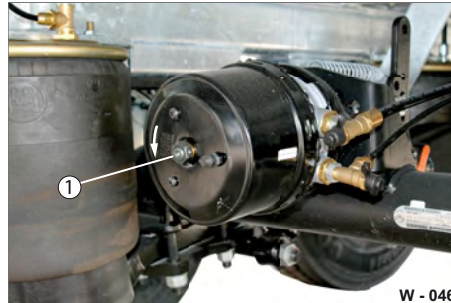

Fig. 51 Releasing parking brake
- Unscrew the release bolt (Fig. 51/1). The release bolt unscrews itself - the spring is tightened.
- Screw on the release bolt (Fig. 51/1). The release bolt screws itself in - the spring is relaxed.